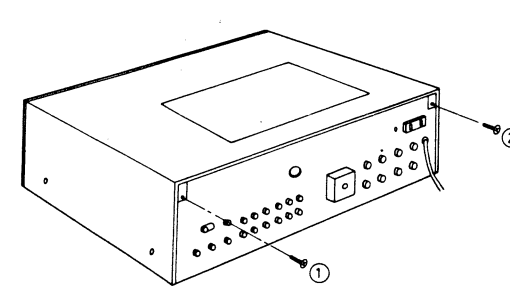

Fig. 7
- Remove the two cabinet mounting screws (nos ①, ② screws in fig. 7).